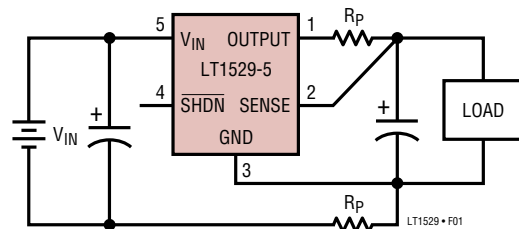

Figure 1. Kelvin Sense Connection
**SENSE (Pin 2):** SENSE Pin. For fixed voltage versions of the LT1529 (LT1529-3.3, LT1529-5) the SENSE pin is the input to the error amplifier. Optimum regulation will be obtained at the point where the SENSE pin is connected to the output pin. For most applications the SENSE pin is connected directly to the OUTPUT pin at the regulator. In critical applications small voltage drops caused by the resistance ( $R_P$ ) of PC traces between the regulator and the load, which would normally degrade regulation, may be eliminated by connecting the SENSE pin to the OUTPUT pin at the load as shown in Figure 1 (Kelvin Sense Connection). Note that the voltage drop across the external PC traces will add to the dropout voltage of the regulator. The SENSE pin bias current is  $15\mu A$  at the nominal regulated output voltage. This pin is internally clamped to  $-0.6V$  (one  $V_{BE}$ ).